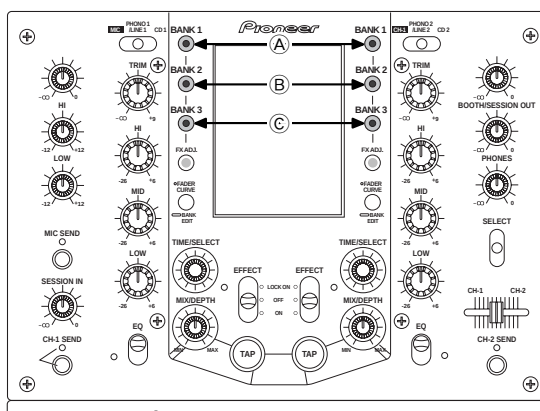

Fig. 1
If the unit is accidentally turned on without rewriting the program of the LCD microcomputer ② after any of the program or data blocks ③-⑤ was (were) rewritten, the LED of the main unit (see Fig. 1) will blink. Be sure to wait until the LED stops blinking and remains lit, then turn off the unit. If you turn off the unit while the LED is blinking, the unit will not operate properly.
- Effect program : BANK1 LED (A)
- Display data 1 : BANK2 LED (B)
- Display data 2 : BANK3 LED (C)